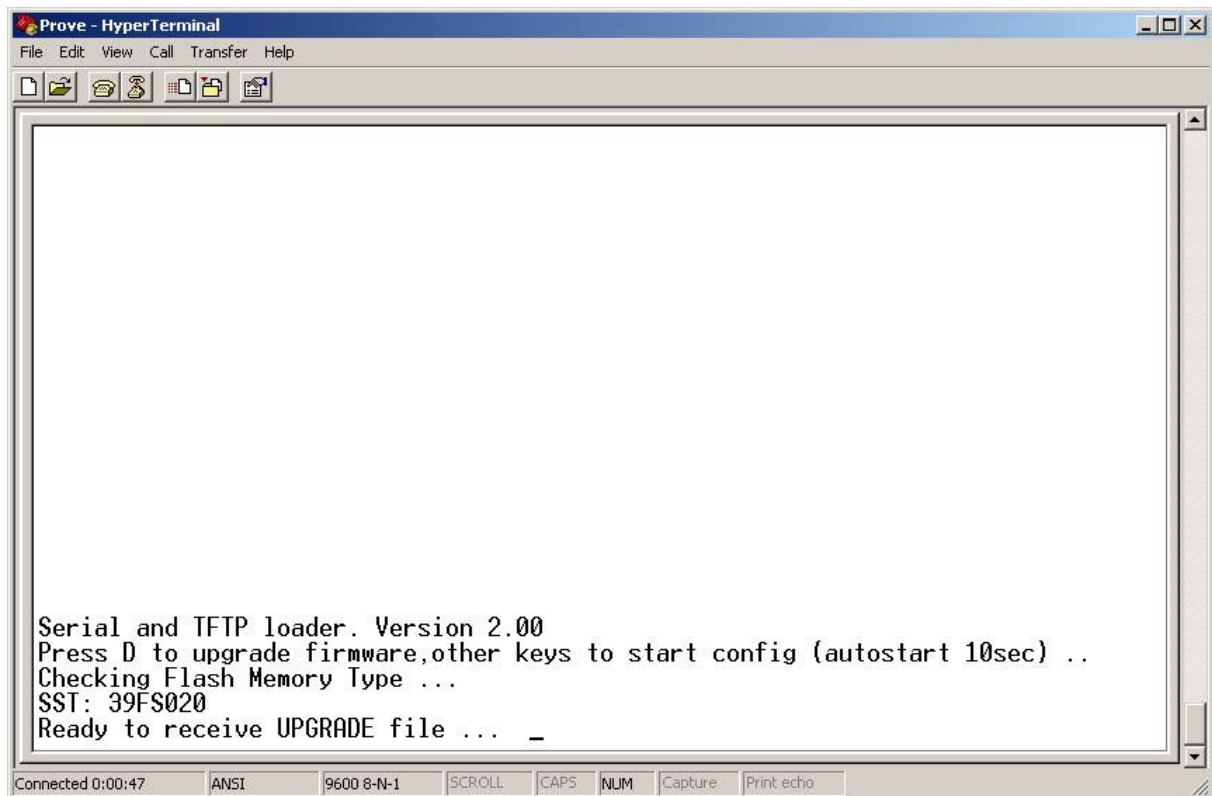

Figure 8: Connection to upgrade Firmware: start
4. Wait until the message “Press D download software...” appears, as shown in figure 8.